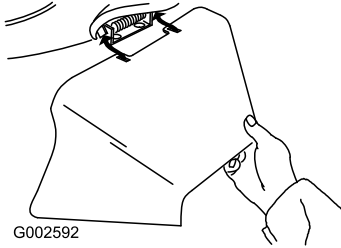

Figure 25
- Install the side discharge chute and close the door onto the chute (Figure 25).